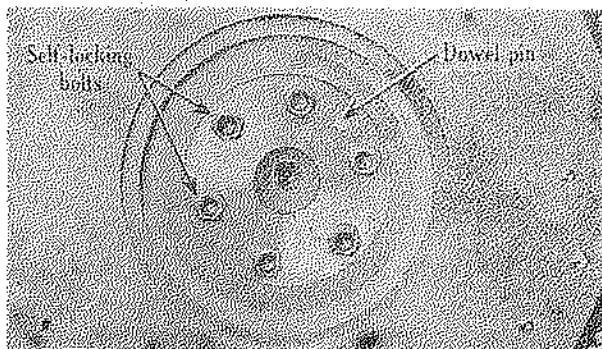

Fig. 26 - Remove self-locking capscrews to remove flywheel
6. With crankshaft securely clamped in vice, remove the six self-locking capscrews holding flywheel to crankshaft (Fig. 26). Tap flywheel with a soft hammer to loosen it from crankshaft; remove flywheel with ring gear assembly.